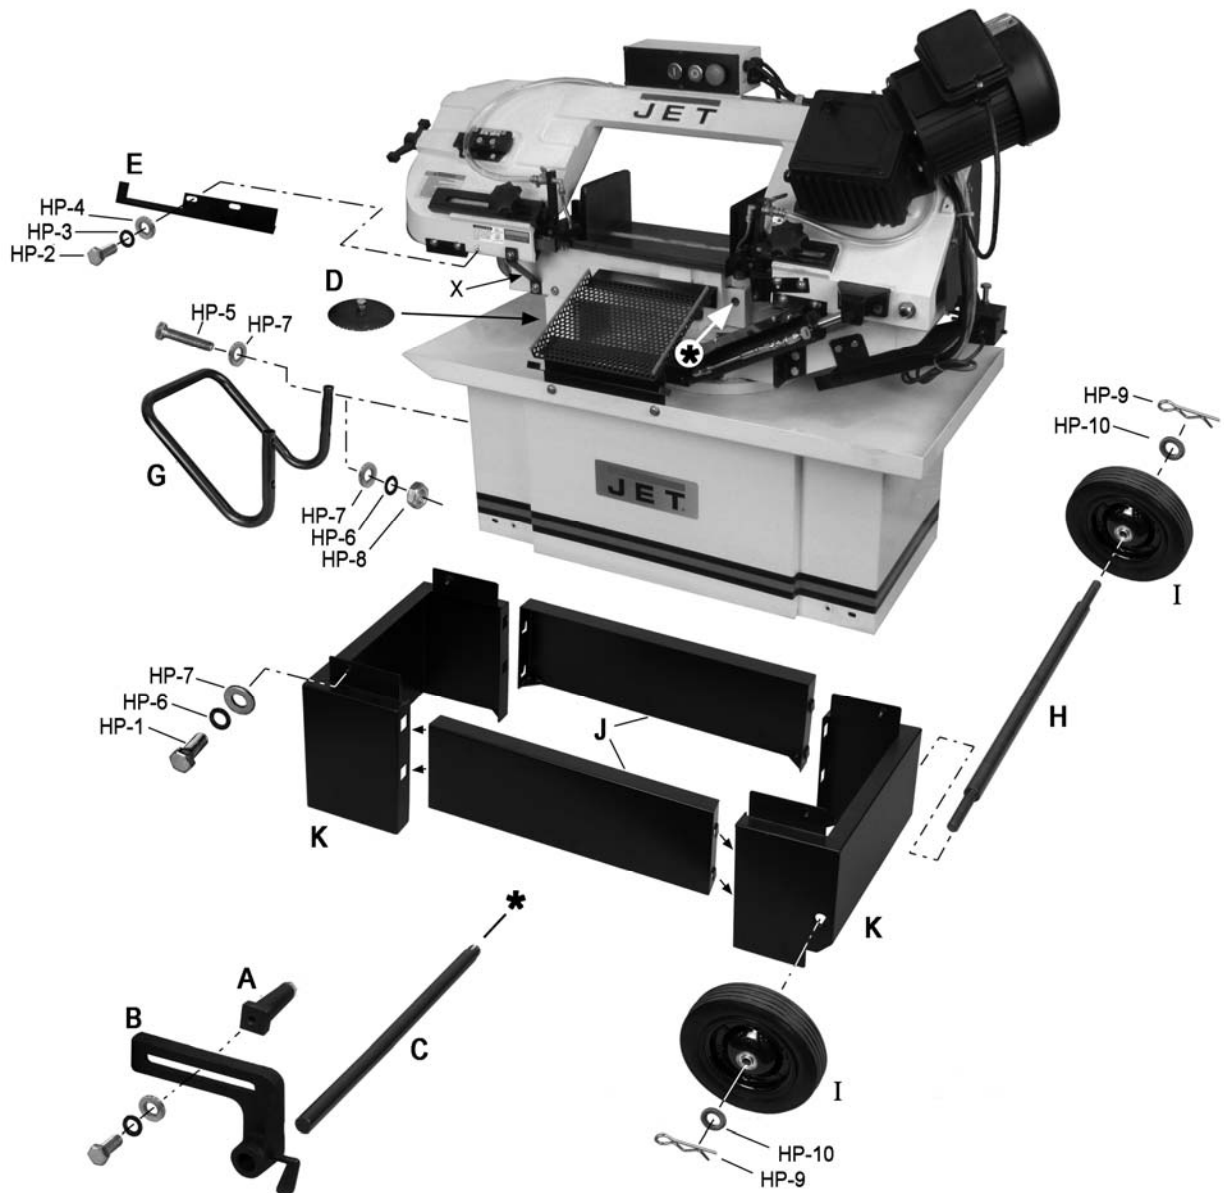

Figure 4
Refer to Figure 4.
1. Assemble base parts (J,K) according to Figure 4.
7. Install handle (G), and place filter screen (D) over coolant drain hole in pan.
9. Install guard (E) in place where shipping bracket was removed, with two screws and washers (HP-2/3/4).